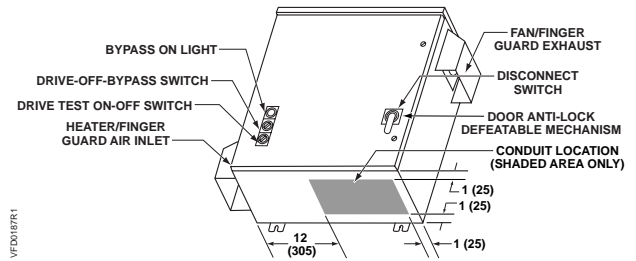

Figure 1. Conduit Location for Enclosure Frame ABC, 3RHE Frame B.
When locating NEMA Type 3R/3RHE enclosure, make certain that the heater/finger guard air inlet (Figures 1 through 3) is not blocked and that any environmental substance (such as snow or sand) or other debris will not potentially block the air inlet.
1. Punch appropriate conduit holes for motor and power wiring (Figures 1 through 3).